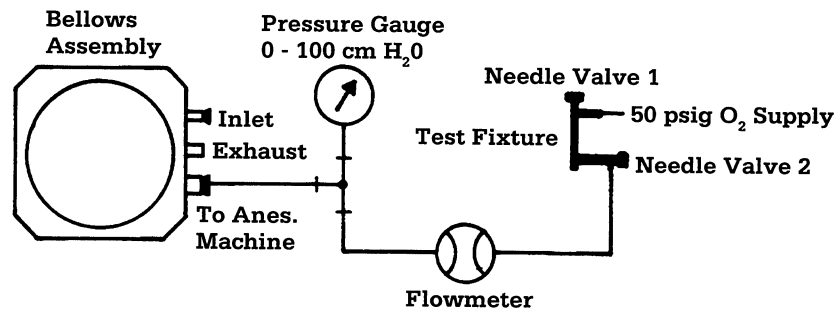

Figure 3-4
1. Connect the test equipment to the bellows assembly as shown in Figure 3-4.